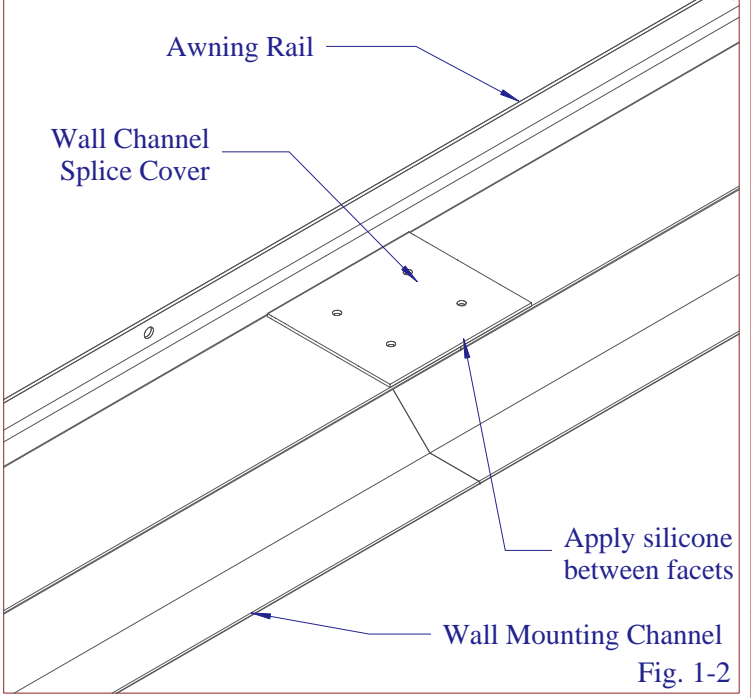

Fig. 1-2
- If Wall Mount is in two or more sections, splice using the provided Wall Mounting Splice Cover. Apply silicone to the top of the Wall Mounting Channel at splice and place the Wall Mounting Splice Cover over the splice. Attach with 4 - 3/4" Tek Screws and remove excess silicone. (see Fig. 1-2)